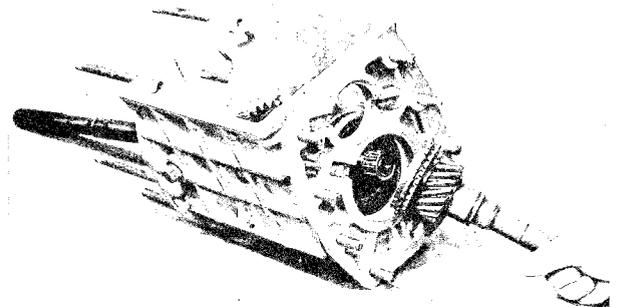

Fig. 7A-34 Removing main drive shaft
38. Take out the main shaft and gears assembly from the case, as shown in Fig. 7A-35.